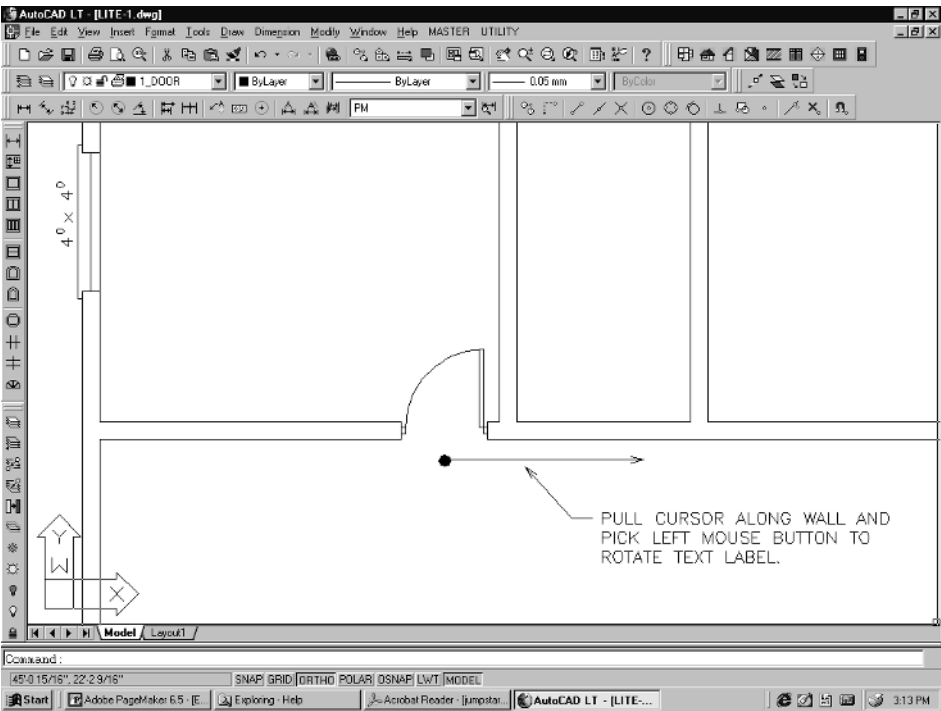

Figure 6-36
2. The prompt will ask for the rotation angle. The default is 0. This is normally okay for the tag style label. If you are using the text style label, you will probably want to pull your cursor along the wall where the door is located and pick. See Figure 6-36.